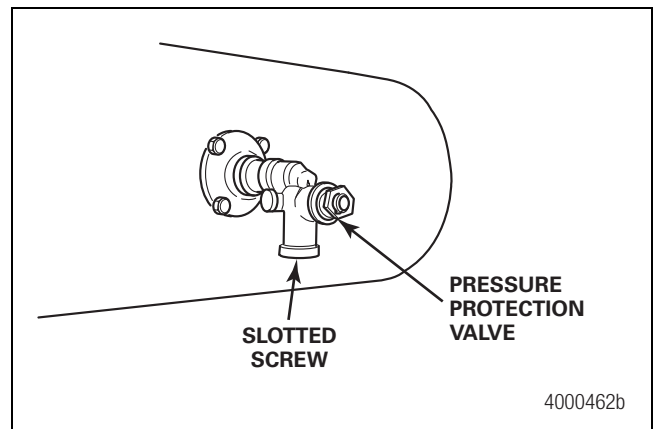

Figure 2.60
3. Hand-tighten the PPV into the installation nipple. Use a wrench to tighten the PPV approximately two additional turns to obtain an airtight seal. When correctly installed, the slotted screw in the PPV should face DOWN. Figure 2.60.